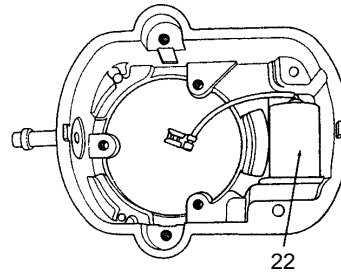

Figure 5
- (5) A yellow powder, yellow particles, oxides, or white chalky powder on the condenser housing (22) indicate moisture contamination. See Figure 5. Refer to paragraphs 3.B and C of this bulletin and Slick Maintenance and Overhaul Manual L-1037.